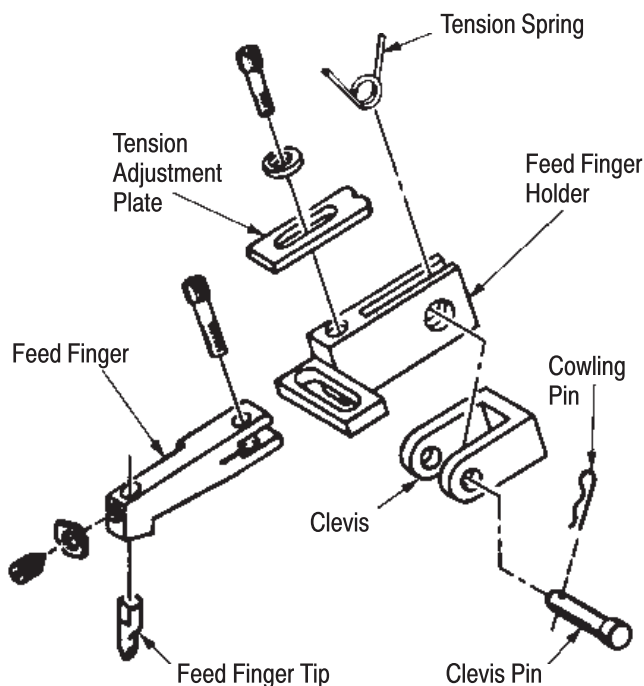

Figure 2
2. Remove the cowling pin from the clevis pin. See Figure 2.
1. Place the new feed finger holder in the clevis. See Figure 2.